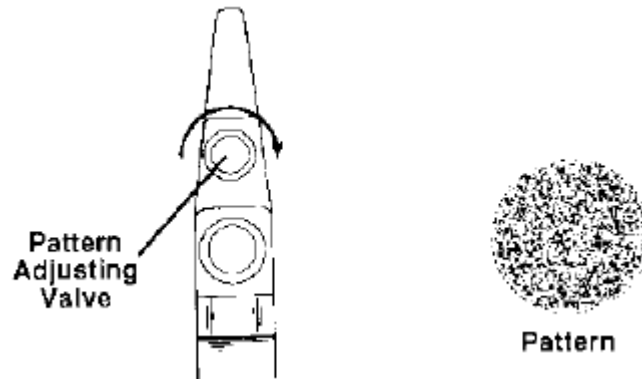

Figure 5 Round Pattern
1. When the pattern adjusting valve is closed (turned completely clockwise), a round pattern results (see Figure 5).